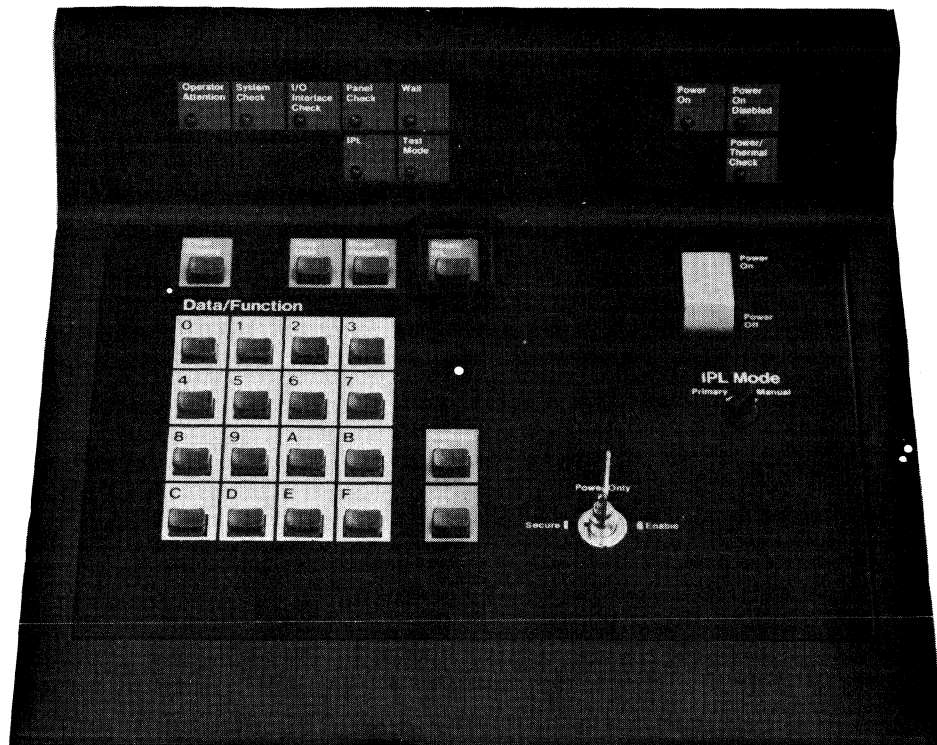

Figure 8-3. 8130/8140 Operator Panel with Features
- 8130/8140 operator panel (Figure 8-3)